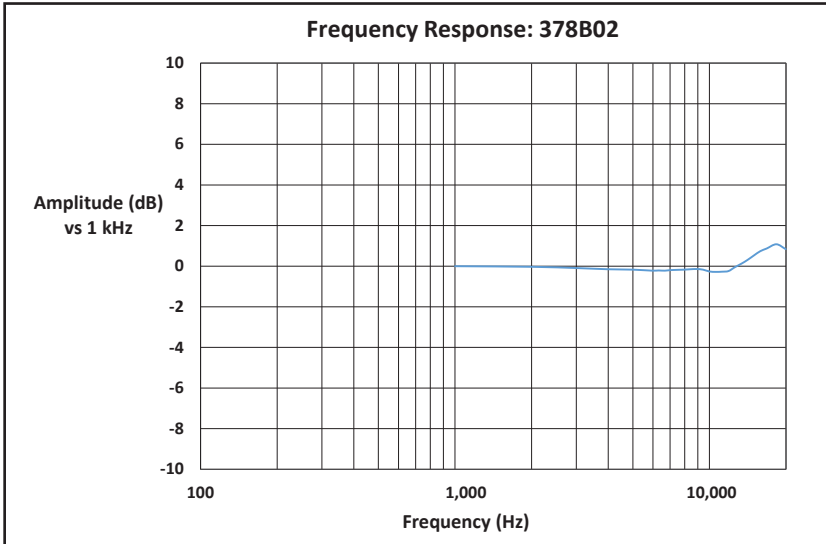

Figure 6: The frequency response of the 378B02 was measured by comparison to a reference microphone and conforms closely to the supplied calibration curves.
On test, the noise floor—determined by the BLANK method I described earlier—easily met specification, clocking in at a moderately quiet 15.1 dB, A-weighted, well under the specified 16.5 dB(A) maximum. **Figure 6** shows the measured frequency response above 1 kHz,